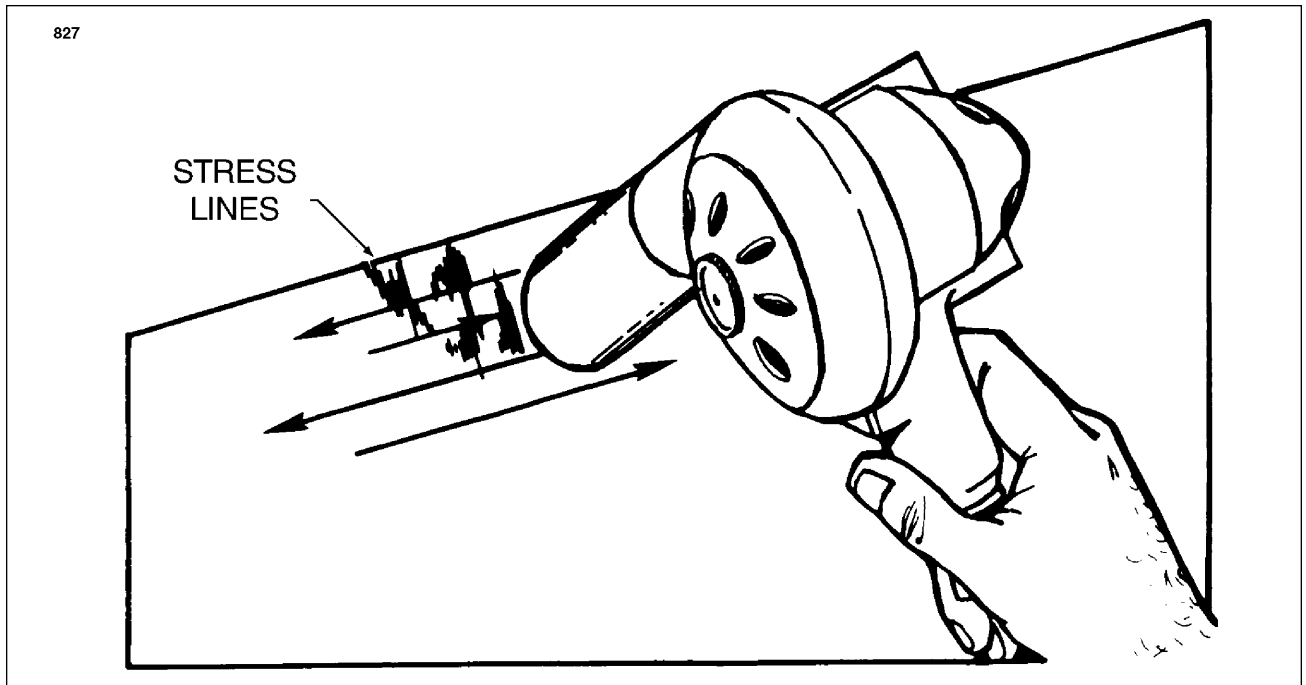

Figure 4-20. Repair of Stress Lines
- f. Stress lines: (Refer to Figure 4-20)